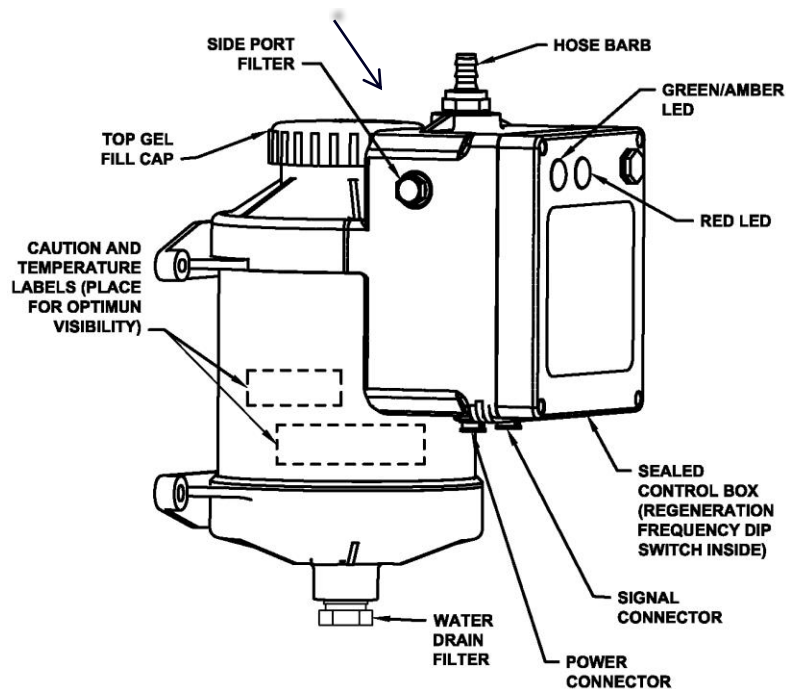

Figure 3 – ARDB2 Fittings and Label Installation
3. Install included hose barb securely (see Figure 3 on page 10). Use of thread sealant (if hose barb is not already pre-Teflon taped) is required to prevent water from flooding the humidity sensing chamber.
4. Install side port filters (use pipe sealant if filter is not pre-Teflon taped) and water drain filter (see Figure 3 above).
2. Plug the three-wire harness into the three-wire receptacle on the left side of the breather as shown in Figure 3 on page 10.
5. Plug the five-wire harness into the five-pin receptacle on the right side of the breather as shown in Figure 3 on page 10.